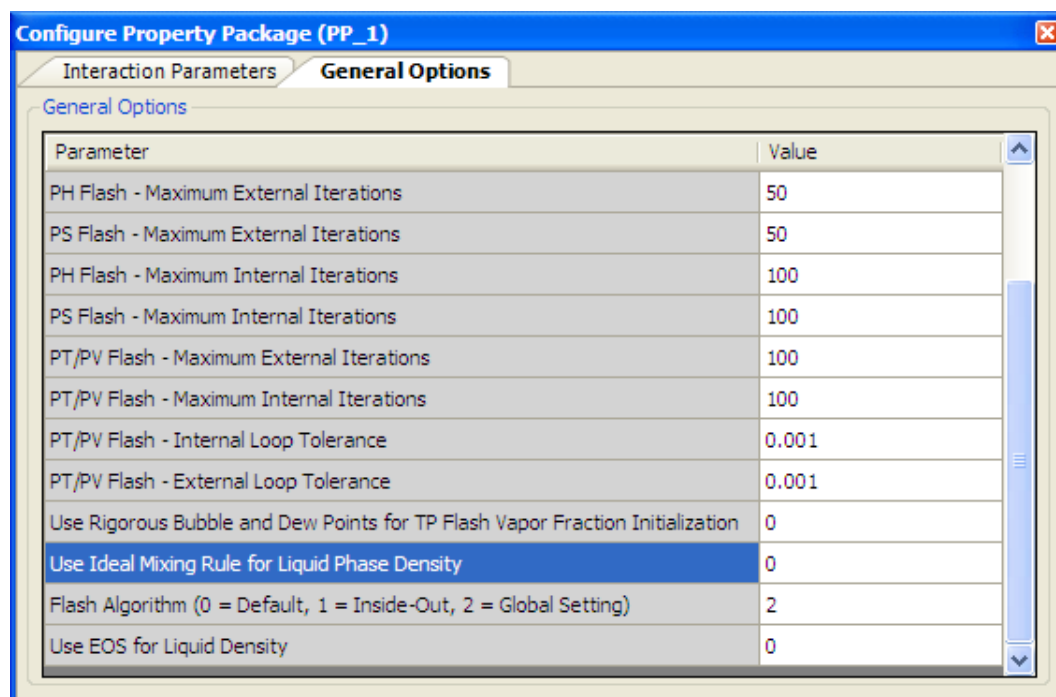

Figure 9: Property package configuration window for EOS-based models.
**Property Package configuration** If the selected property package has any editable property, the "Configure" button becomes clickable and the user can click on it to show the property package configuration window. For instance, with the SRK property package the editable parameters are the binary interaction parameters (Figure 8) and some convergence/tolerance values for flash calculations (Figure 9).